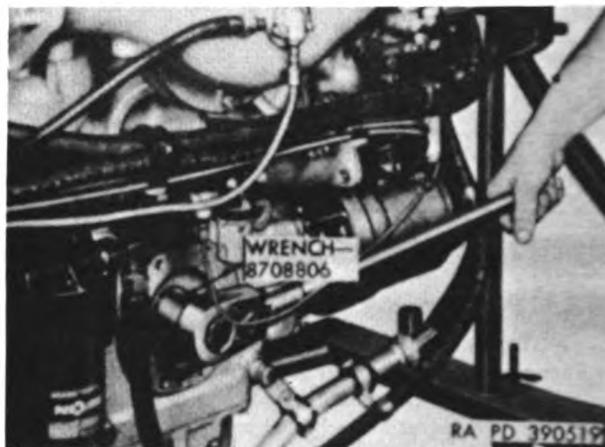
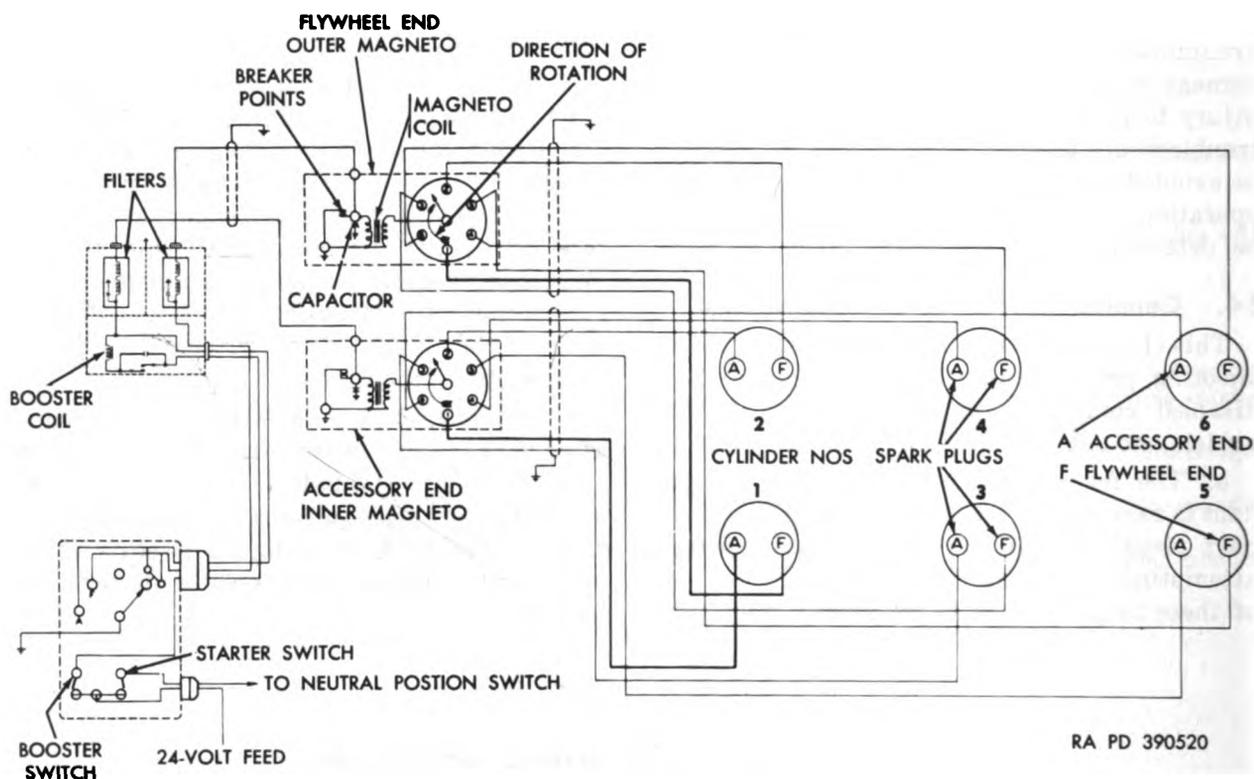

Figure 15. Turning engine through power take-off drive shaft.
Figure 16. Ignition wiring—schematic diagram.
- (1) Ordnance maintenance personnel should make a preliminary examination of the defective components before troubleshooting the materiel.
- (2) During troubleshooting, as outlined in table IV, it will be necessary to turn the engine by hand. To turn engine by hand, remove power-take-off cover (par. 120*d*) and install wrench 8708806 (S, fig. 10) on power-take-off drive shaft as shown in figure 15.
- (3) After turning engine, remove wrench and install power-take-off drive cover (par. 261).
- (4) In the troubleshooting table (table IV), reference is also made to ignition wiring as shown in figure 16.